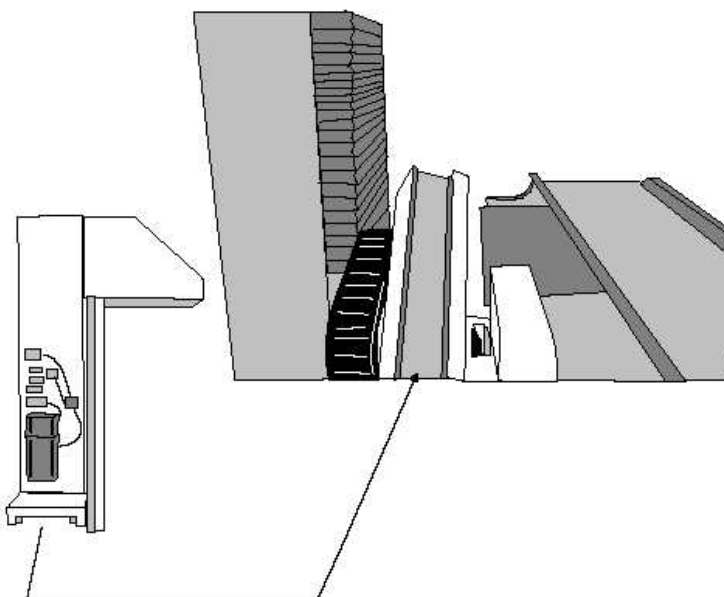

Fig 1.17
- Insert the column on the guide and fix it to the double translation chain, fig. 1.17